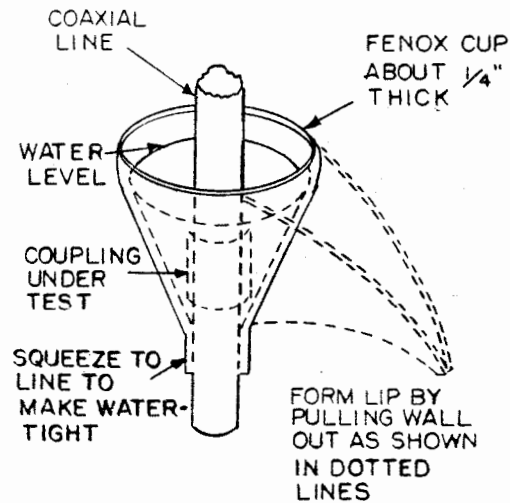

Figure 11-90. Method of Testing for Leaks using Fenox
d. THE FENOX METHOD.— This involves the use of Fenox, an electrical sealing compound of plastic consistency. The material is formed into a sheet which is wrapped and lapped around the line just below the suspected joint and shaped as shown in Figure 11-90. Water is poured in until the level is above the joint. Leaking gas shows itself by the formation of bubbles. To empty, form a lip as shown by the dotted lines of Figure 11-90, drain water, and remove Fenox from the line for re-use. (Dry to original plasticity before re-use). Fenox is an electrical sealing compound manufactured by Halowax Products Divisions of the Union Carbon & Carbide Corporation, 30 East 42nd St., New York City, New York.